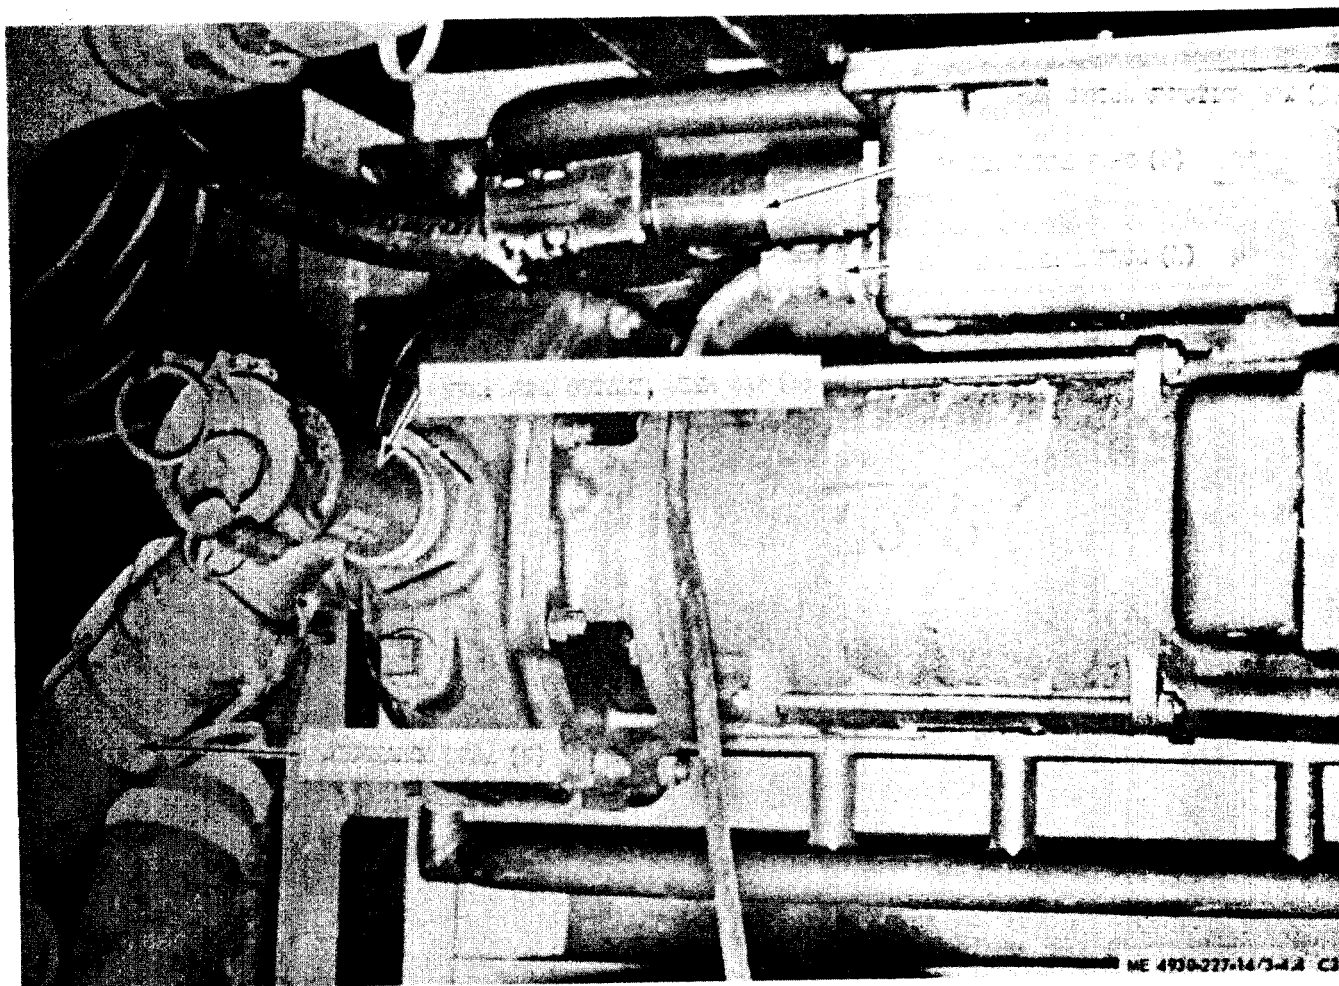

Figure 3-4.4. Pump and engine unit
(11) Connect the inlet hose (3, fig. 3-4.5) and discharge hose (5, fig. 3-4-4), assemblies to and discharge hose (5, 3-4.4), assemblies to pump assembly.
(12) Insert the power cable plug into receptacle provided on vehicle cab.
(13) Insert power cable plug (2, fig. 3-4.4 into the motor junction box 3).
(14) Secure the remote control plug (4, fig. 3-4.4), to the motor junction box.